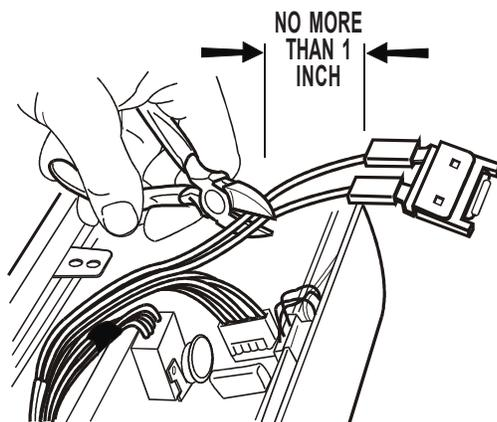

FIGURE 1
2. Open the door and remove the six (6) screws securing the control console to the inner door and CAREFULLY fold control console forward and down.
3. Lift and cut the two (2) existing harness wires (black and black/white) going to the T.C.O. (about one inch back from the terminals). See Figure 1.